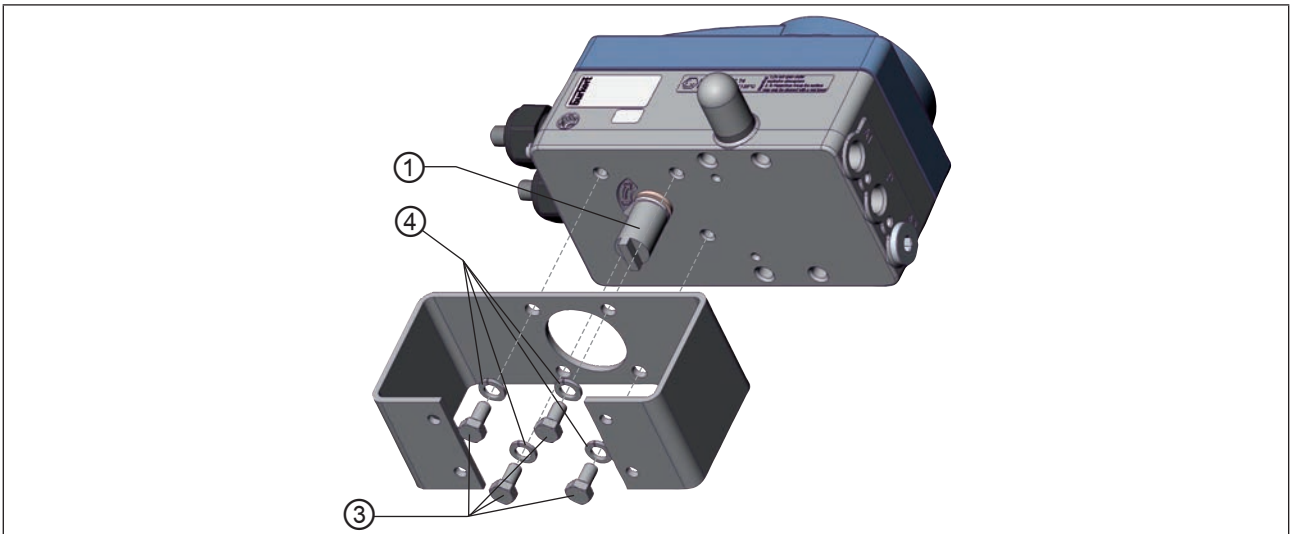

Figure 29: Attach assembly bridge (schematic representation)
- Attach the assembly bridge to the positioner using 4 cheese-head screws ③ and circlips ④. (see "Figure 29").